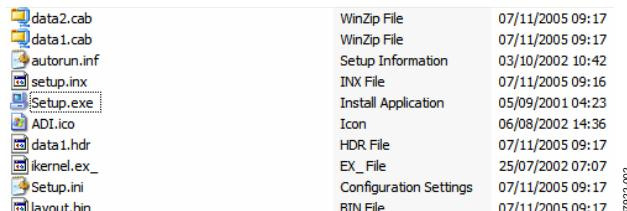
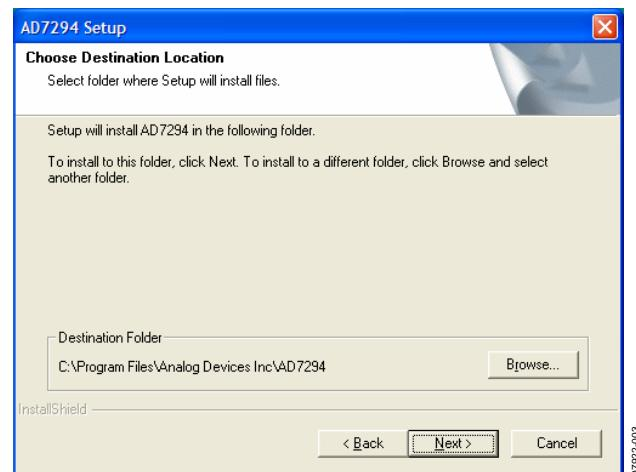

Figure 2. Select **Setup.exe**
Figure 3. AD7294 Setup, Choose Destination Location Window
3. In the **AD7294 Installation** folder, double-click **Setup.exe** (see Figure 2) and install the software on the hard drive of your computer by using the installation wizard (see Figure 3). It is recommended to install the software in the default destination folder path, **C:\Program Files\Analog Devices Inc\AD7294**.